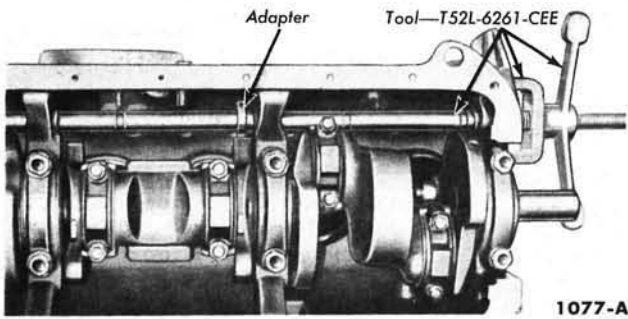
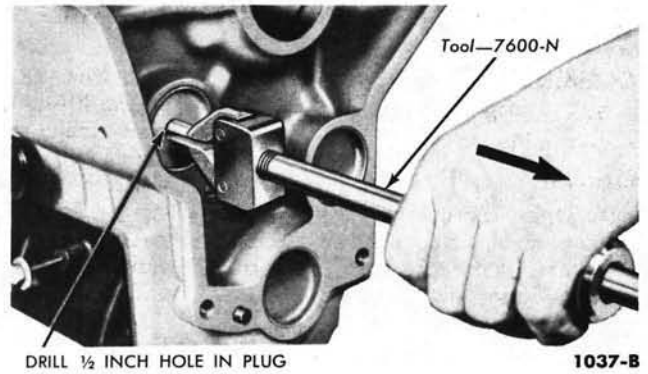

FIG. 32—Camshaft Bearing Replacement
FIG. 31—Camshaft Rear Bearing Bore Plug Removal
1. Remove the engine from the chassis, then remove the camshaft. Drill a 1/2-inch hole in the center of the camshaft rear bearing bore plug and remove it as shown in Fig. 31. Remove the camshaft bearings (Fig. 32).
2. Position the bearing at the bearing bore and press it in place (Fig. 32). **Number 1 camshaft bearing must be pressed in 0.005-0.020 inch below the front face of the bearing bore. Press the remaining bearings in sufficiently to align the oil supply holes.**